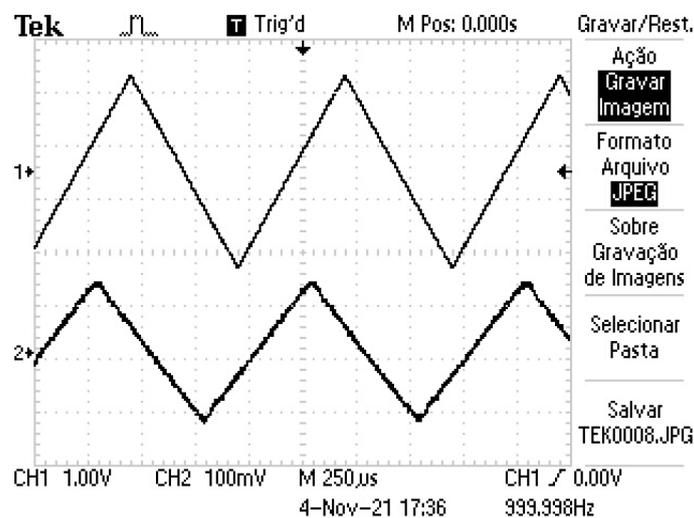

Figure 6: Oscilloscope view of the function generator triangular wave and analog output of the STM32F746G.
**Question 7:** repeat the previous experiment (question 6) with a triangular wave (make sure its duty cycle is 50%). You should obtain a figure similar to that represented in Figure 6. Now, increase the frequency of the triangular wave, in steps of 1 kHz, until the STM32F746G output wave looks like a perfect sinusoid. Is the frequency after which the output wave looks like a sinusoid the same, lower, or higher than that that you observed in Question 6 ? How do you explain that ?